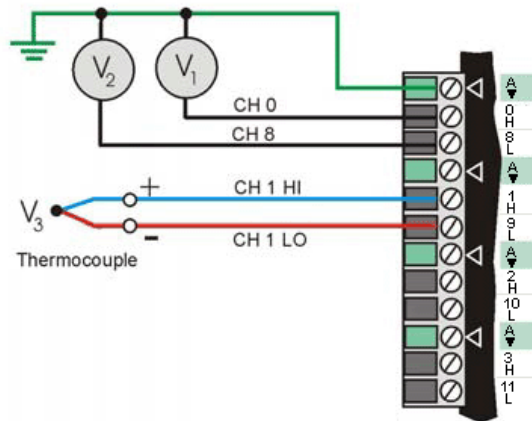

Figure 1. Single-ended voltage connections (V_1 and V_2) and differential thermocouple connections (V_3)
- Connect voltage signals as *single-ended* or *differential* connections (see Figure 1).
- Connect thermocouple signals as *differential* connections (see Figure 1). The negative (typically, the red) thermocouple wire connects to the channel's LO connector, and the *other color* wire connects to the channel's HI connector.